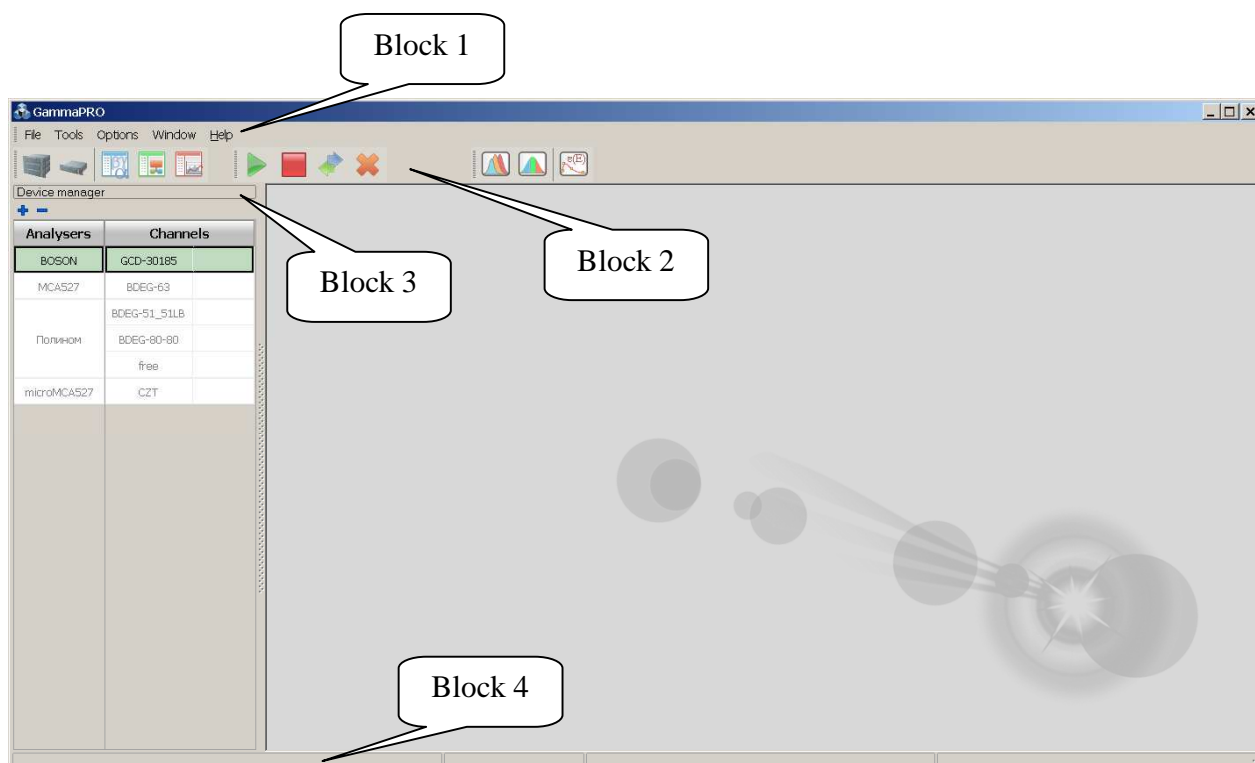

Figure 1. View of **GammaPRO** after its launch
When the programme has started, the main window of the programme will appear on the display (Fig.1).
As **Device manager** (Block 3, Fig.1) can be separated from the left edge of the main programme window and can be closed, then **Device manager** can make this panel visible again.
GammaPRO toolbar looks as shown on Figure 1 (block 2). The panel is divided into groups, which can be moved within the panel, or “separated” from the panel and moved to some other area of the main window of the programme.
-  - **Device configuration**, displays a configuration window of the analyser (device), which is highlighted in the **Device manager** right now (Fig.1, block 3, Analysers column);
-  - **Tract configuration**, displays a configuration window of the spectrometric tract, which is highlighted in the **Device manager** right now (Fig.1, block 3, Channels column);
-  - **Measurement parameters**, displays a window with parameters of measurements for the spectrometric tract, which is highlighted in the **Device manager** right now (Fig.1, block 3, Channels column);
-  - **Calculation parameters**, displays a window with calculation (activity, etc.) parameters for the spectrometric tract, which is highlighted in the **Device manager** right now (Fig.1, block 3, Channels column);
-  - **Spectrum view parameters**, displays a window with parameters of the view of the spectrum (colours of elements of the histogram, background, axes, etc.) for the spectrometric tract, which is highlighted in the **Device manager** right now (Fig.1, block 3, **Channels** column).
-  - **Energy calibration**, displays energy calibration for the tract, which is highlighted in the **Device manager** right now (Fig.1, block 3, Channels column);
-  - **FWHM and shape calibration**, displays FWHM (full width at half maximum) and shape (left edge shape) calibration of the peak for the tract, which is highlighted in the **Device manager** (Fig.1, block 3, **Channels** column);
-  - **Start**, starts a measurement in the spectrometric tract, which is highlighted in the **Device manager** right now (Fig.1, block 3, **Channels** column);
-  - **Stop**, stops a measurement in the spectrometric tract, which is highlighted in the **Device manager** right now (Fig.1, block 3, **Channels** column);
-  - **Read**, forced reading of the spectrum from an analyser for the current spectrometric tract, which is highlighted in the **Device manager** right now (Fig.1, block 3, **Channels** column);
-  - **Clear**, clears spectrum buffer in the analyser for the current spectrometric tract, which is highlighted in the **Device manager** right now (Fig.1, block 3, **Channels** column).
The **Device Manager** panel (Fig.1, block 3) is intended for switching between analysers (devices) and tracts within a single analyser (if the analyser is multi-tract analyser). This solution allows simultaneously and operatively controlling any number of devices connected to the PC and spectrometric tracts, to start measurements and conduct processing.